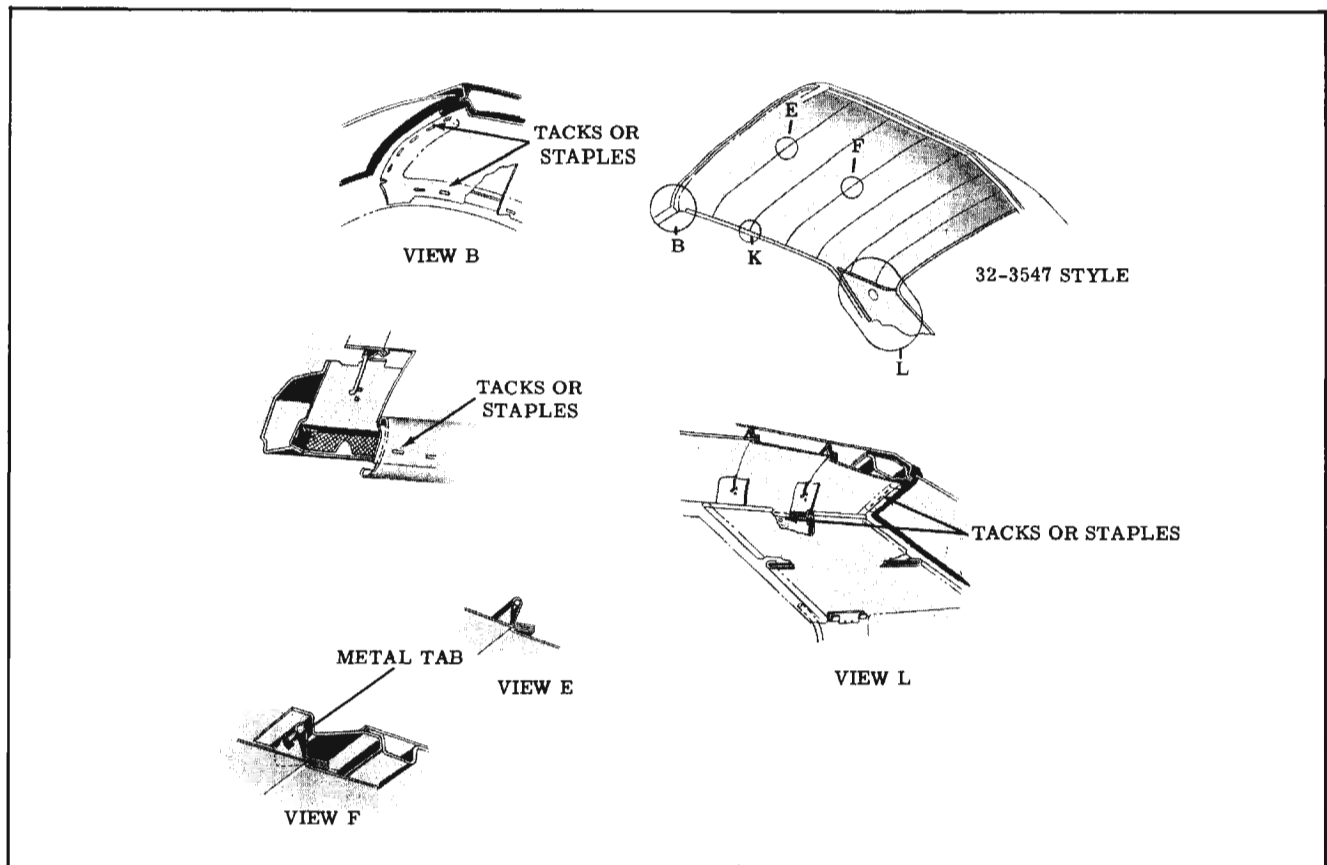
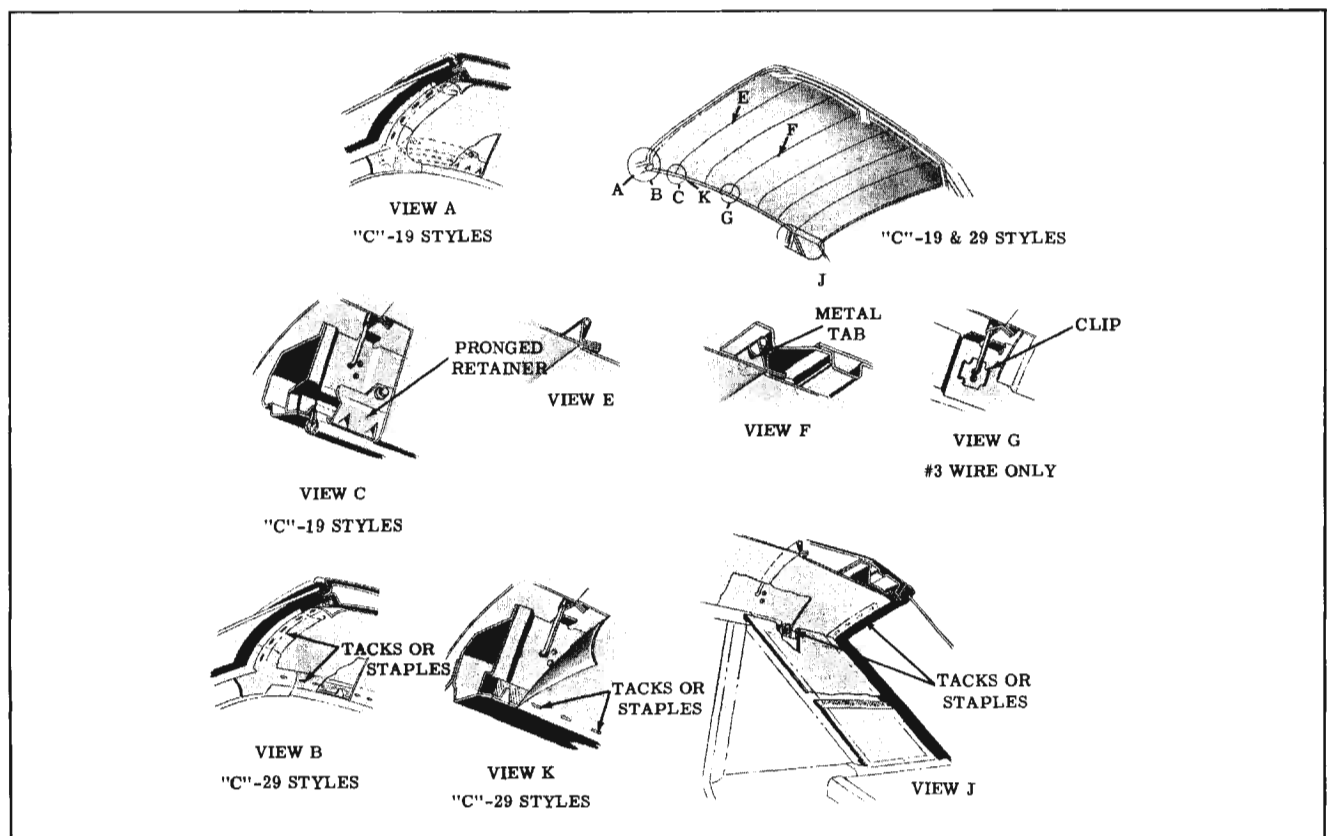
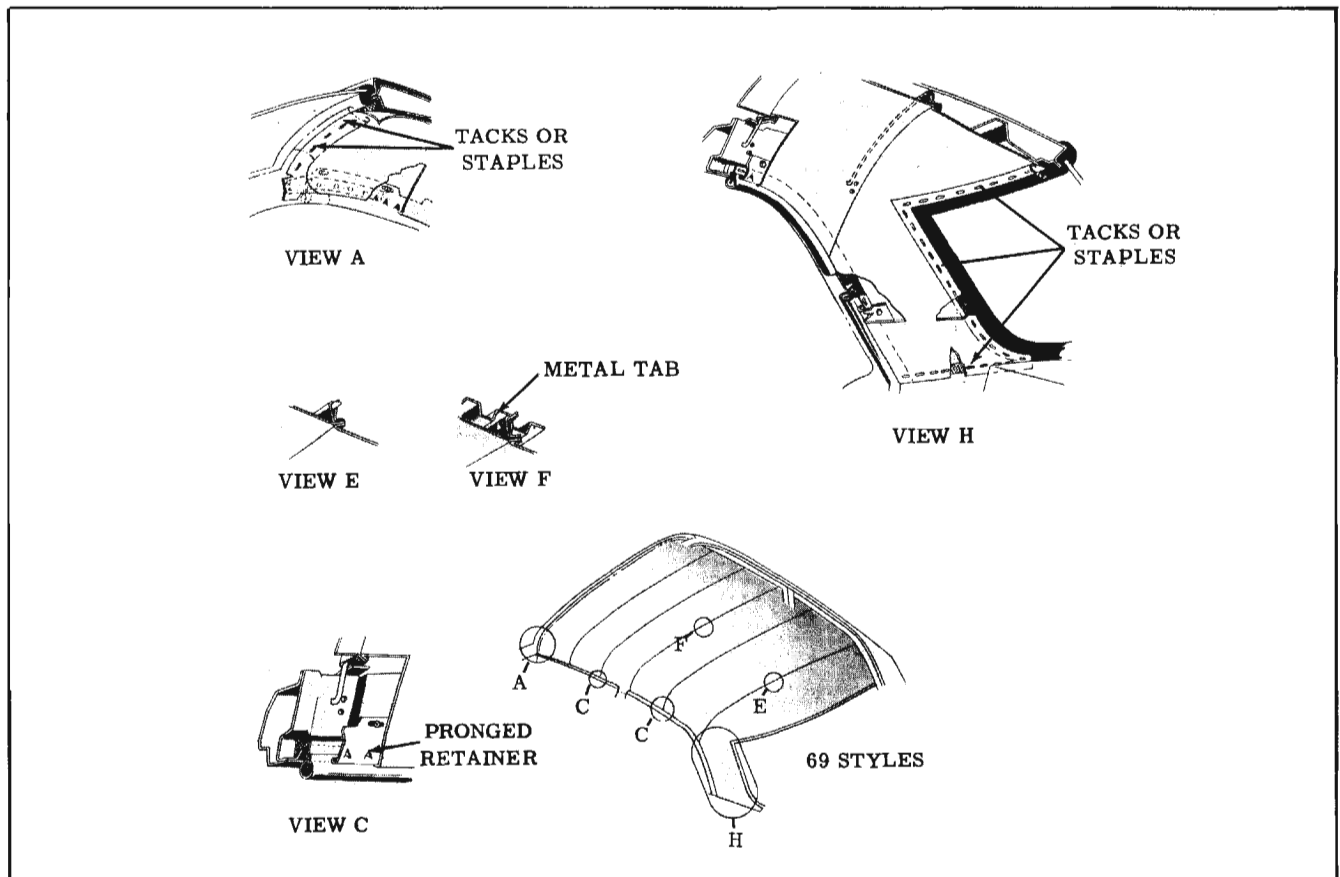
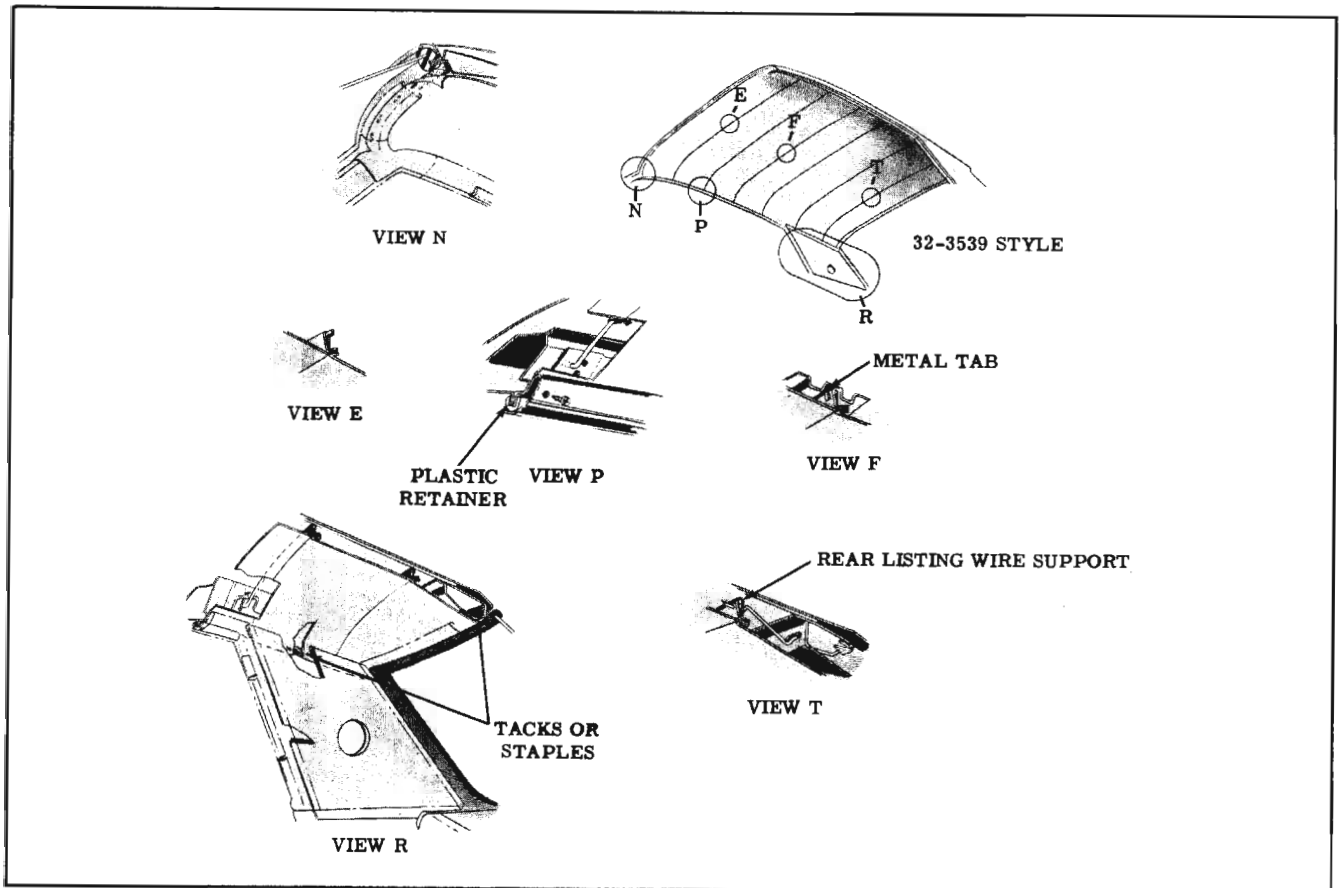

Fig. 16-72 Headlining Installation (3247 and 3547 Styles)
Fig. 16-73 Headlining Installation ("19" and "29" Styles)
Fig. 16-74 Headlining Installation (3269 and 3569 Styles)
Fig. 16-75 Headlining Installation (3239 and 3539 Style)
16-72 and Fig. 16-73) On 32-3569 and 3819 styles, use headlining inserting tool J-2772 and carefully disengage headlining from pronged retainer along side roof rails. (View C, Fig. 16-74 and Fig. 16-73). Along side roof rails on 32-3539 styles, carefully remove plastic retainer on side roof rail pinchweld flange. (View P, Fig. 16-75)
7. At front roof bow, bend down metal tabs securing listing wires. (View F, Figs. 16-72, 16-73, 16-74 and 16-75)
8. Remove rear listing wire support on 32-3539 styles. (View T, Fig. 16-75)
3. Lift entire headlining assembly into body and install rear listing wire. On 32-3539 styles, install rear listing wire support. (View T, Fig. 16-75)
6. At front roof bow, bend up metal tabs securing listing wire and listing wire pocket. (View F, Figs. 16-72, 16-73, 16-74 and 16-75)
7. Stretch and stay tack headlining along entire windshield and back window opening. Stay tack headlining in rear quarter area where required. (View H, Fig. 16-74, View L, Fig. 16-72, View J, Fig. 16-73 and View R, Fig. 16-75)
10. Permanently tack or staple headlining at side roof rails on 32-3547 and 3829 styles. (View K, Fig. 16-72 and 16-73) On 32-3569 and 3819 styles, use headlining inserting tool J-2772 and carefully tuck edges of headlining under pronged retainer along both side roof rails. (View C, Figs. 16-73 and 16-74) On 32-3539 styles, using headlining inserting tool, permanently install edge of headlining around side roof rail pinchweld and replace plastic retainer. (View D, Fig. 16-75)